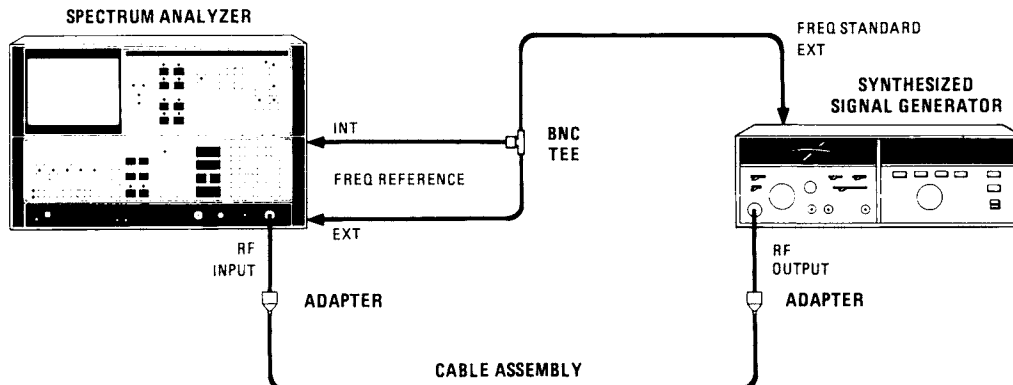

Figure 4-40. Image, Multiple, and Out-of-Band Responses Test Setup
1. Connect equipment as shown in Figure 4-40 with synthesizer output connected to analyzer input. The **FREQ REFERENCE** switch on the rear panel of the 8566A should be set to **INT** and the **FREQ STANDARD** switch on the 8672A rear panel should be set to **EXT**.